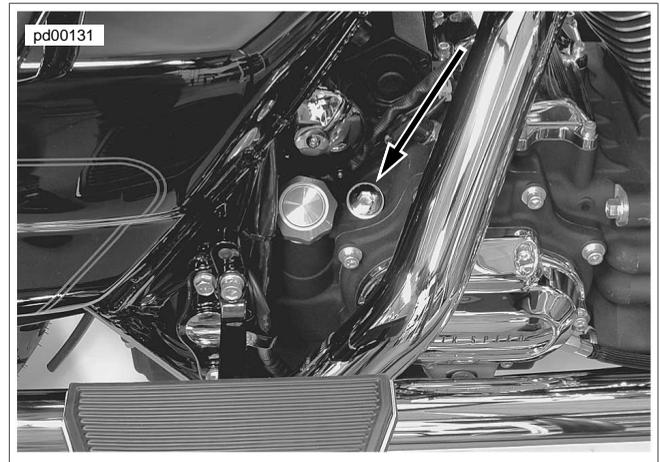

Figure 1-13. Transmission Filler Plug/Dipstick Location
2. See Figure 1-13. Remove the threaded filler plug/dipstick.
1. See Figure 1-13. Remove the threaded filler plug/dipstick.